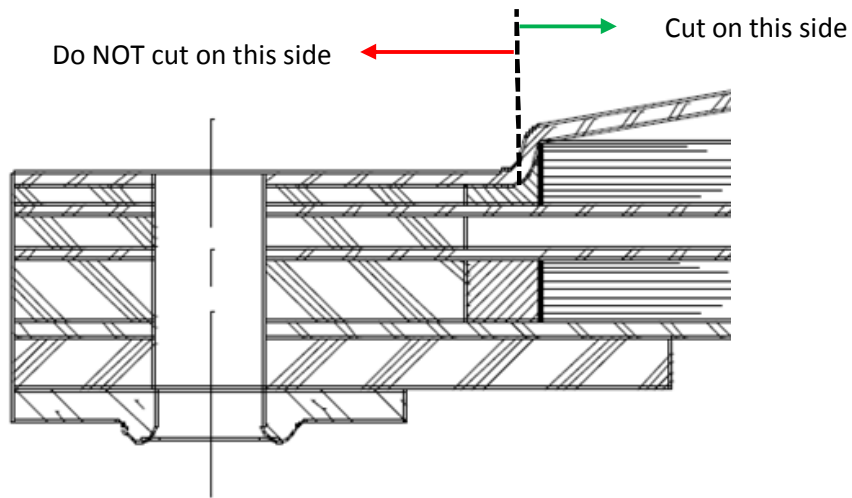
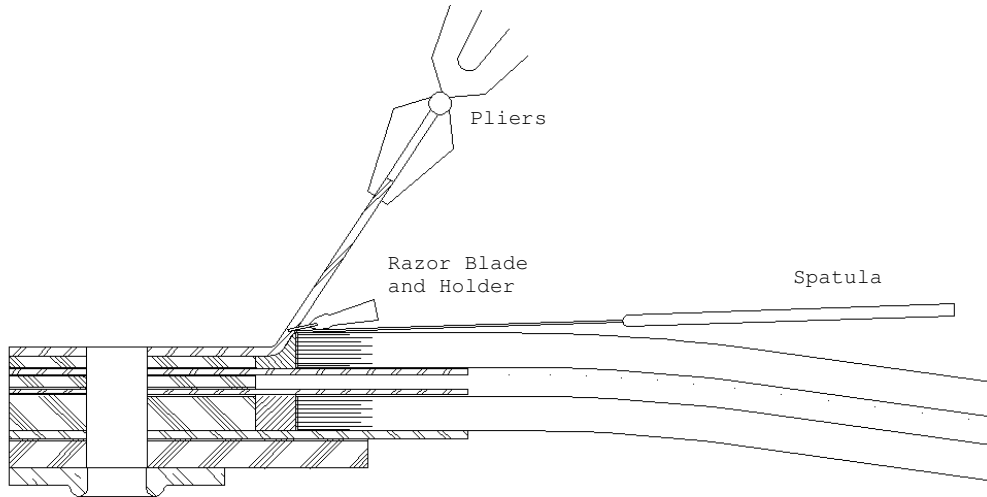

Figure 3 – Area of Allowable Repair
Figure 4 – Proper Cutting Technique
- (3) Carefully slide the spatula under the loose portion of the strap.
- (4) Insert a razor blade into the razor blade holder and cut through the fiberglass strap on the top of the spatula (See Figure 4). Cut the strap all the way to the edge of the glass, but not beyond the vertical section of the of the fiberglass strap (See Figures 3).